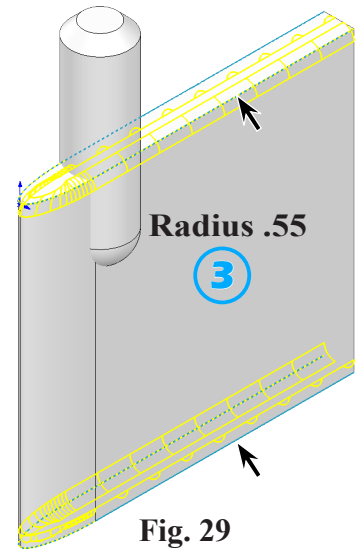

Fig. 29
③ **Radius**  **.55**
click **top and bottom edges of blade (2)**, **Fig. 29**